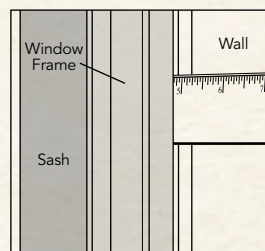

Figure 1
STEP 1: From interior remove existing trim casing. Place a straight ruler in the gap between existing window frame and wall to measure the exact overall wall thickness (See figure 1). *Note: Some insulation may need to be temporarily removed to ensure proper measurement.*